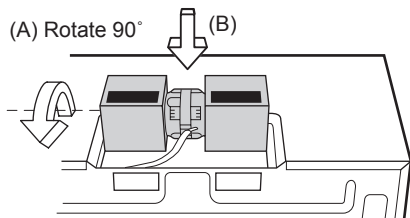

Figure 11
3. Rotate the HOOD FAN UNIT 90° so that the fan blade openings are facing the top of the oven. See figure 11 (A). Replace HOOD FAN UNIT into the oven. Be careful not to pinch the lead wire between the inner bracket and the HOOD FAN UNIT. Put the lead wire into Wire Box. See figure 11 (B).